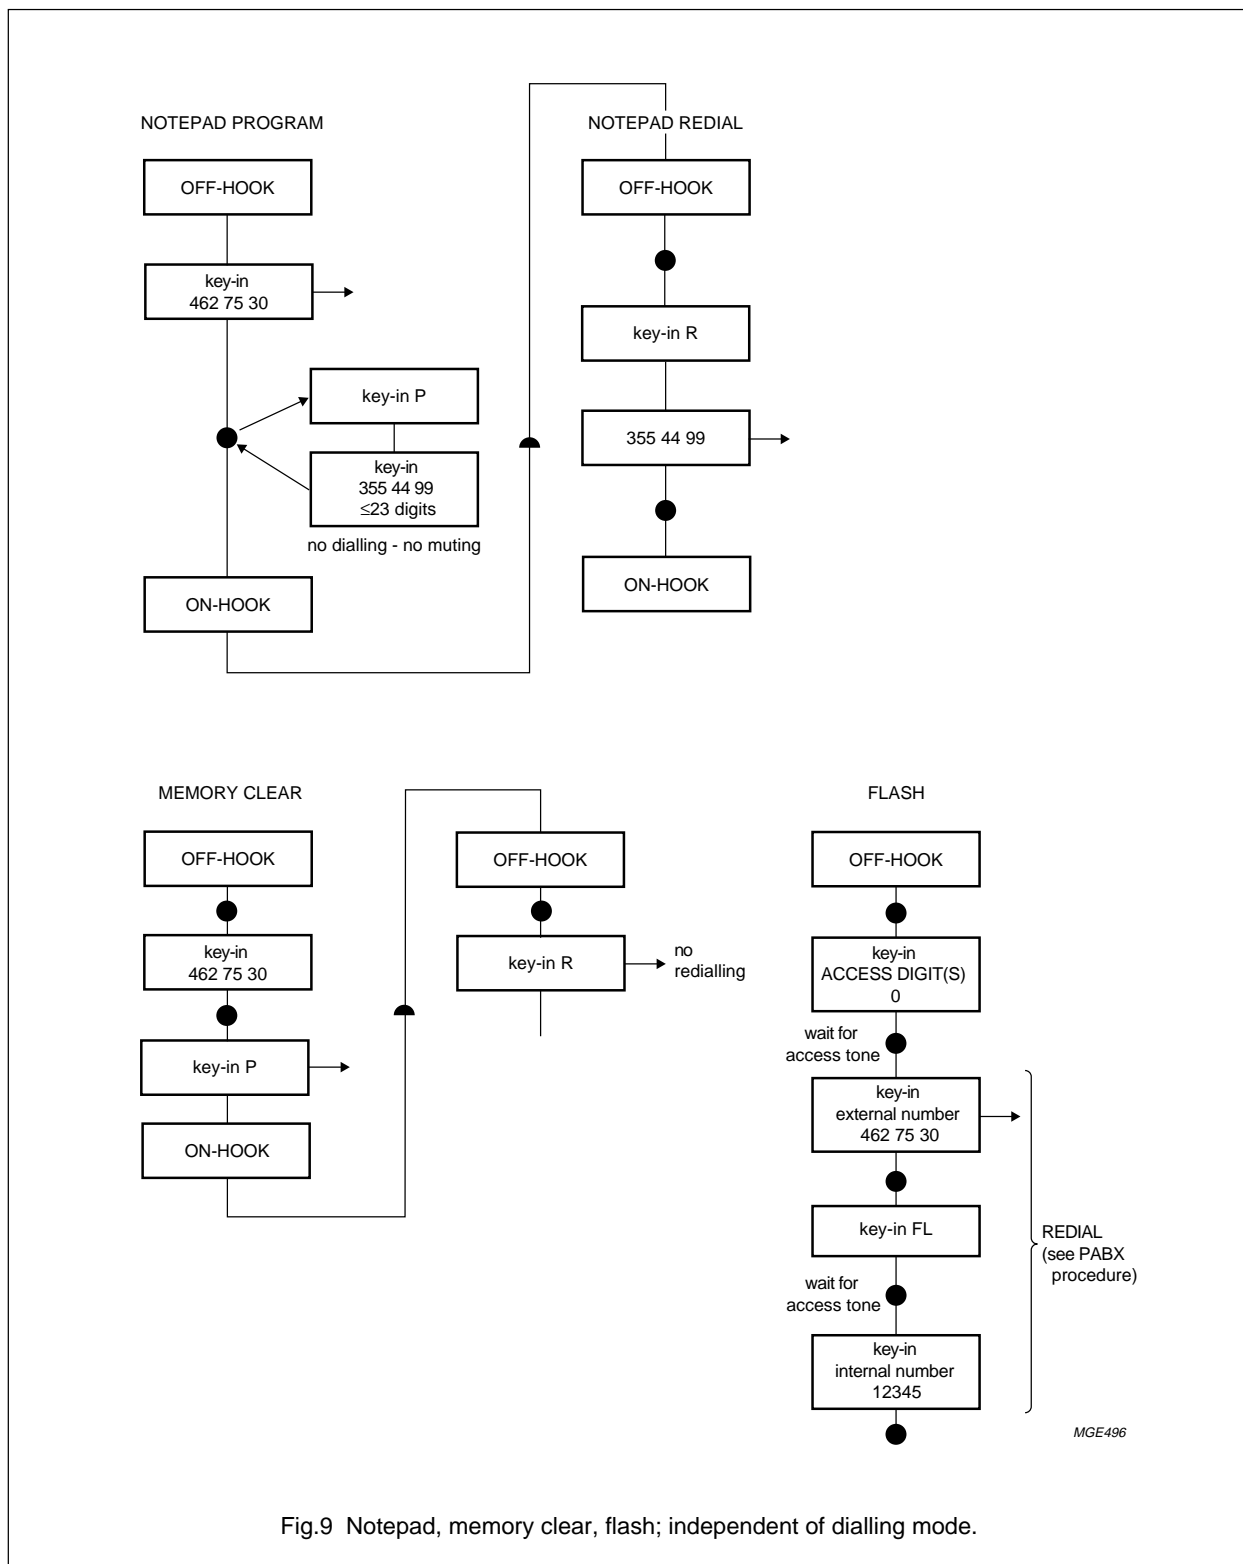

Fig.9 Notepad, memory clear, flash; independent of dialling mode.
The FL key has the same effect as placing the telephone 'on-hook' for a calibrated time. Pressing the FL key will produce a timed line-break of 100 ms (min.) at the DP/FLO output. During the conversation mode pressing FL also acts as a chip enable. The flash pulse duration ( $t_{FL}$ ) is calibrated and can be prolonged with an external resistor and capacitor connected to the FLD input/output (see Fig.5). The flash pulse resets the Read Address Counter (RAC) to the address of the first entered digit of the last number dialled. Subsequent redial is possible (see Fig.9). The counter of the reset delay time is held for a period of  $t_{FL}$ .
The redial register can also be used as a notepad. In the conversation mode a number with up to 23 digits can be entered and stored for redialling. By activating the program key (P) the WAC and TWAC pointers are reset. This acts like a memory clear (redial is inhibited). Afterwards, by entering and storing any digits, redialling will be possible after flash or hook-on and hook-off (see Fig.9).